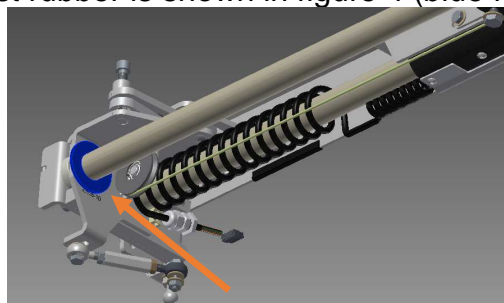

Figure 4: First cushioning rubber
- 8.3. Once the cutting is done, the assembly of the new rubbers can start. The position of the first rubber is shown in figure 4 (blue ring).